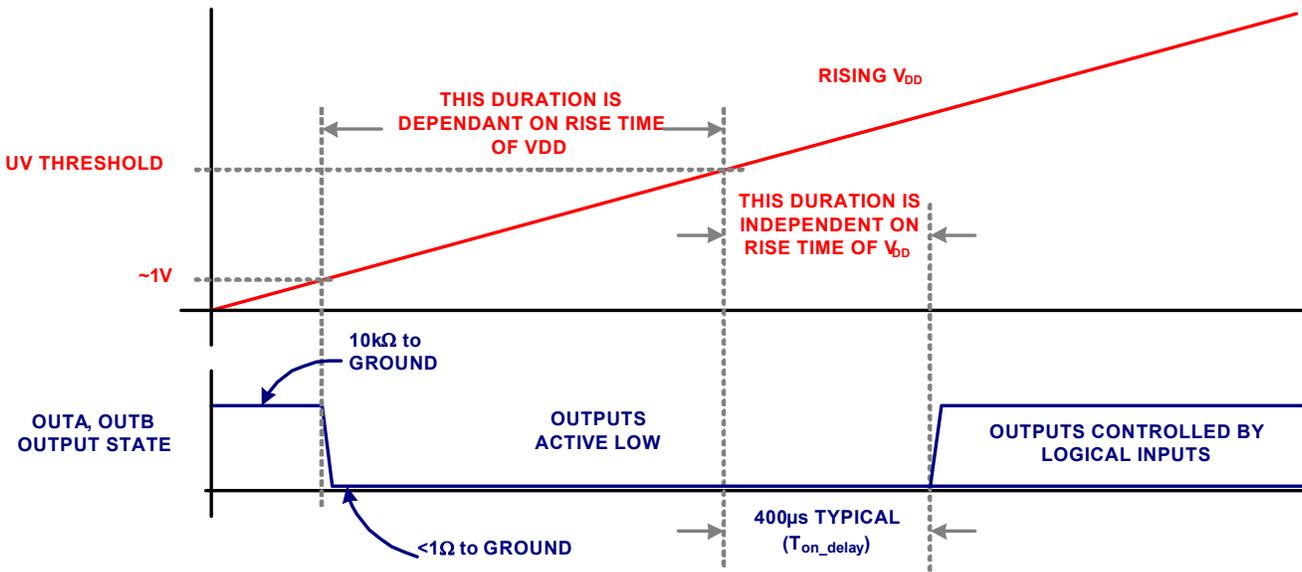

FIGURE 10. START-UP OUTPUT CHARACTERISTIC
- A 400 $\mu s$  delay further inhibits the release of the output state when the UV positive going threshold is crossed. See Figure 10 on page 8.
The start-up sequence for input threshold Options A, B, and C is designed to prevent unexpected glitches when  $V_{DD}$  is being turned on or turned off. When  $V_{DD} < \sim 1V$ , an internal 10k $\Omega$  resistor connected between the output and ground, help to keep the gate voltage close to ground. When  $\sim 1V < V_{DD} < UV$ , both outputs are driven low while ignoring the logic inputs. This low state has the same current sinking capacity as during normal operation. This insures that the driven FETs are held off even if there is a switching voltage on the drains that can inject charge into the gates via the Miller capacitance. When  $V_{DD} > UVLO$ , and after a 400 $\mu s$  delay, the outputs now respond to the logic inputs. See Figure 10 for complete details.